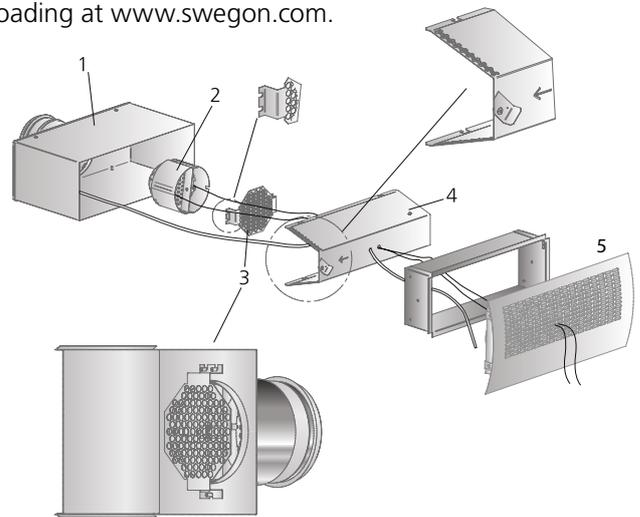

Figure 1. Installation.
The air diffuser section is equipped with a number of air distribution nozzles. By dismantling the air diffuser section from the wall, you can access these nozzles to reset them on the rear side of the air diffuser section, see Figure 1. The air distribution nozzles can be pivoted through 360° for directing the air to suit your needs.
4. The assembly and dismantling of the component parts are shown in Figure 1.
Commissioning must be carried out after the diffuser has been mounted and completely assembled. Pull the measuring tubes and damper adjustment cords out through the diffuser face. Connect a manometer to the measuring tubes. The desired commissioning pressure can be computed by applying the K-factor (rated coefficient of performance) of the air diffuser. Set the damper to the correct blade position, tie a commissioning knot in the damper cords to indicate the damper position. See Figure 1.
The air diffuser can be cleaned, if necessary, using lukewarm water with dishwashing detergent added or by vacuum cleaning using a brush nozzle. The duct system can be accessed after the air diffuser section has been removed, the acoustic baffle has been withdrawn, the air distribution nozzles have been moved to the side and the damper has been turned and withdrawn from its fastener from the inlet. See Figure 1.